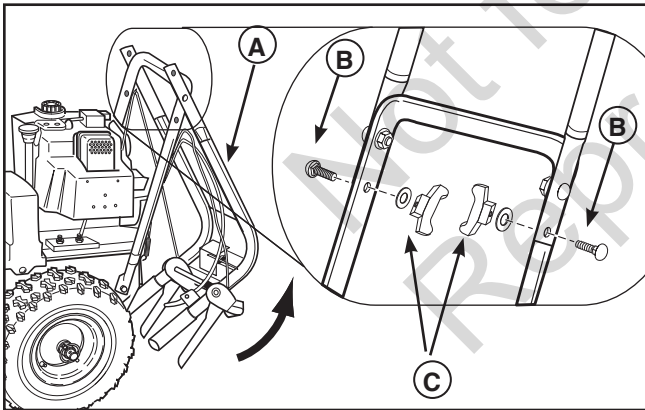

Figure 1
2. Raise the upper handle (A, Figure 1) to the operating position.
3. Insert two bolts (B) into lower holes and fasten with two lock washers and wing knobs (C) or nuts (if equipped). Tighten all four fasteners securely.